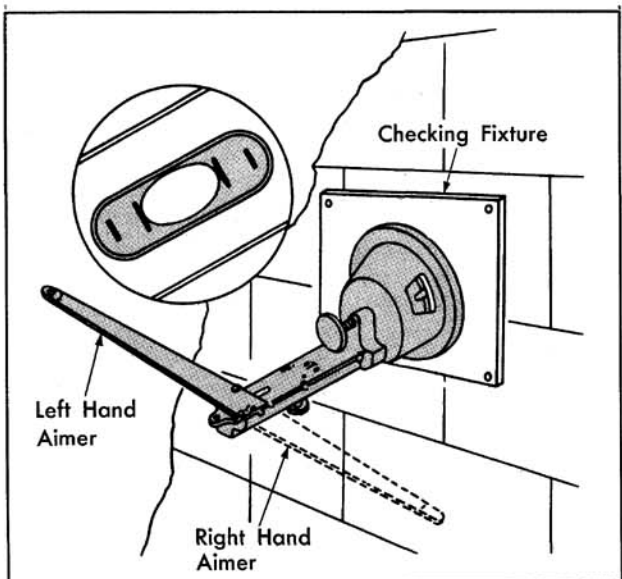

Fig. 13-96 Checking Vertical Calibration
1. With the numeral 2 in the "down" window of the aimer, hold the aimer retaining ring against the three screws in the checking fixture and with the horizontal arm parallel to the floor as shown in Fig. 13-96. If the bubble is centered, the aimer is vertically calibrated.